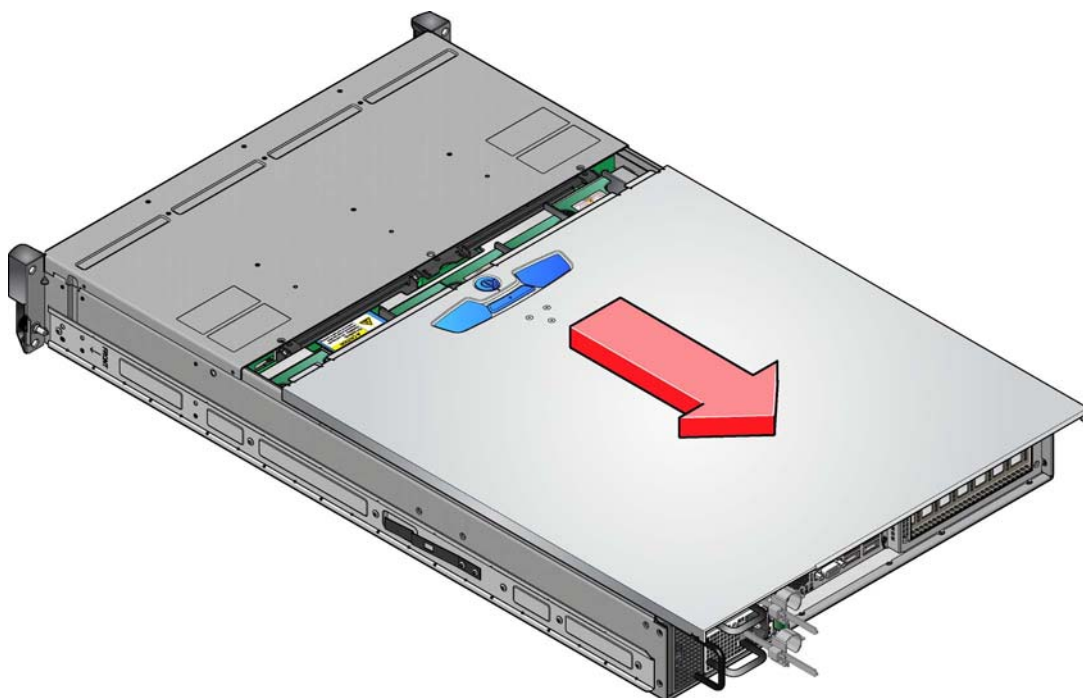

Figure 6-6 Removing the Appliance Cover
- 1 To access the ten cooling fans, release the appliance top cover by turning the lock mechanism to the “unlocked” position and slide the cover back until it stops (see Figure 6-6).